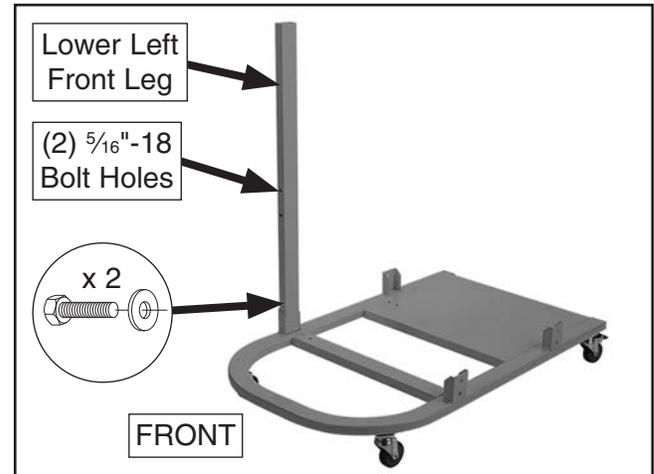

Figure 11. Lower left front leg installed.
3. With bolt holes on front edge facing forward, attach lower left front leg to base stand and finger-tighten with (2) $\frac{5}{16}$ "-18 x $\frac{3}{4}$ " hex bolts and (2) $\frac{5}{16}$ " fender washers (see **Figure 11**).